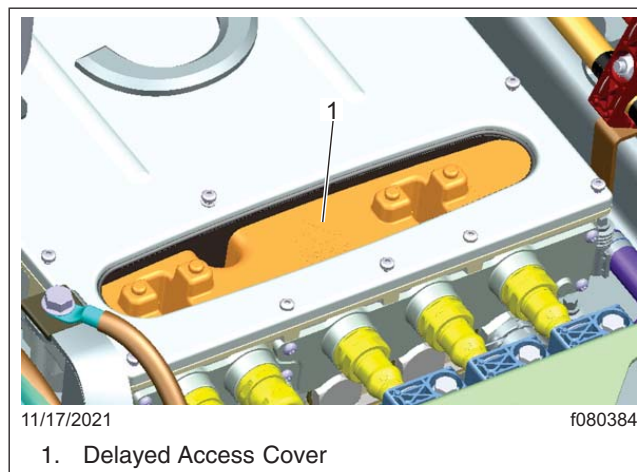

Fig. 5, Delayed Access Cover Removal
13. Remove the delayed access cover. See Fig. 5.
57. Install the delayed access cover. See Fig. 5.